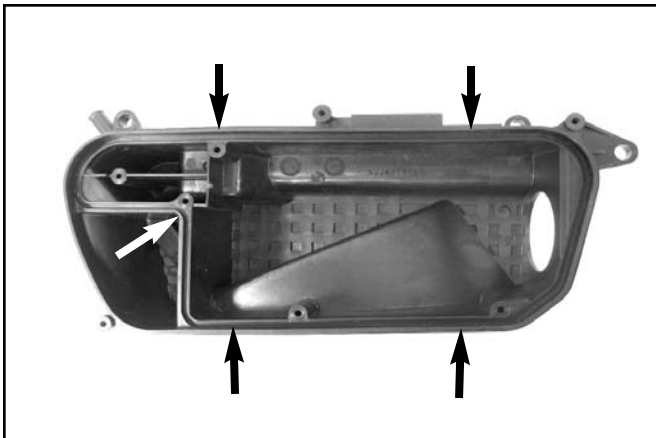

Fig. 1
3. Remove the stock o-ring from the air box base. (Fig. 1)